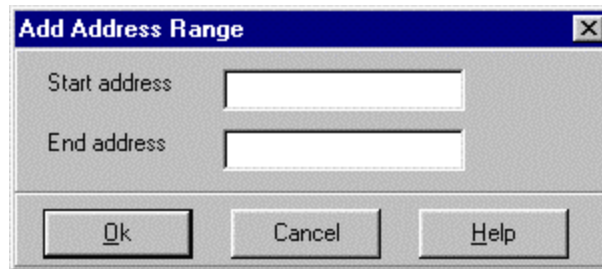

Figure 128. Add Address Range Dialog Box
- **Add**: Opens the **Add Address Range** dialog box (Figure 128). Entries can be done with hex address or symbolically.